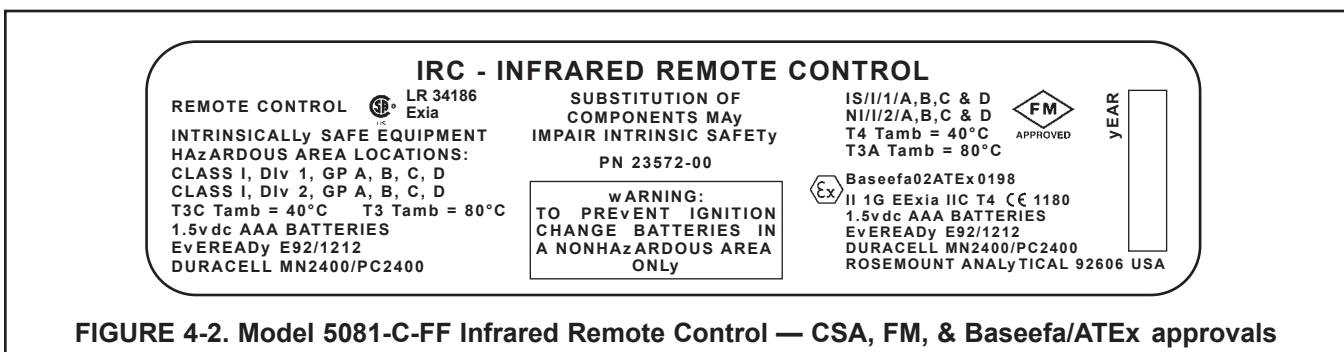

FIGURE 4-2. Model 5081-C-FF Infrared Remote Control — CSA, FM, & Baseefa/ATEX approvals
- For CSA, FM, & Baseefa/ATEX approvals for the infrared Remote Control, see Figure 4-2 (below).